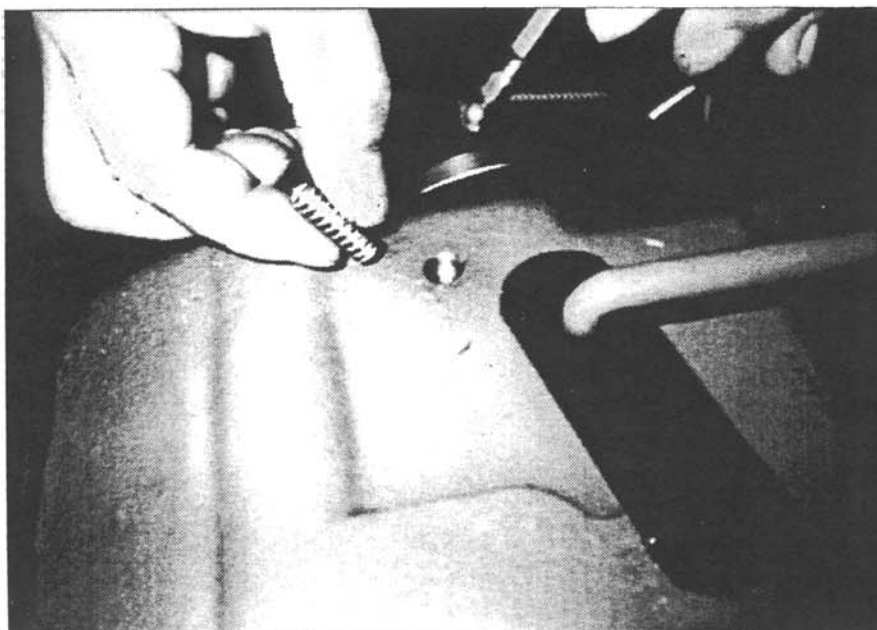

FIGURE 14
5. Remove the hi-lo detent spring and ball. A magnet can be used to lift the ball out of the case. See Figure 14.